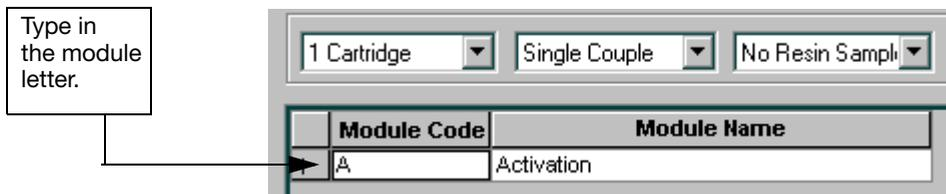

Figure 7-19 Entering a Module
6. Type in the module letter in the Module Code column, for example, Module A, corresponding to Activation (Figure 7-19).